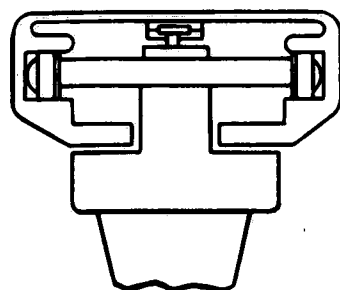

Figure 4-8. TRACK AND CARRIAGE ASSEMBLY.
f. Rubbing of the carriage on the bottom of the track is caused by excessive milling of the axle slot of some carriage assemblies. See Figures 4-8 and 4-9, and replace carriage (27, Figs. 5-5 thru 5-5E).